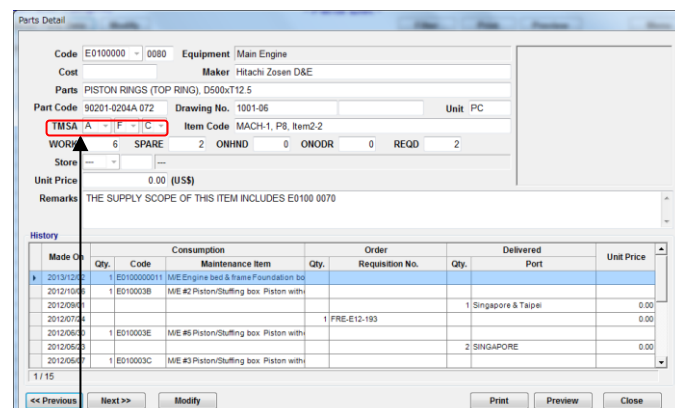

Fig.12-5 Parts Dialog
(10) Select item and [Detail Parts Data], "Parts Dialog"(Fig.12-5) is displayed.
(11) If you want to modify, select [Modify], only SMS category can be changed.
(12) If you want to print, select [Print].
(13) If you want to see preview, select [Preview].
(14) If you want to close a screen, select [Close].